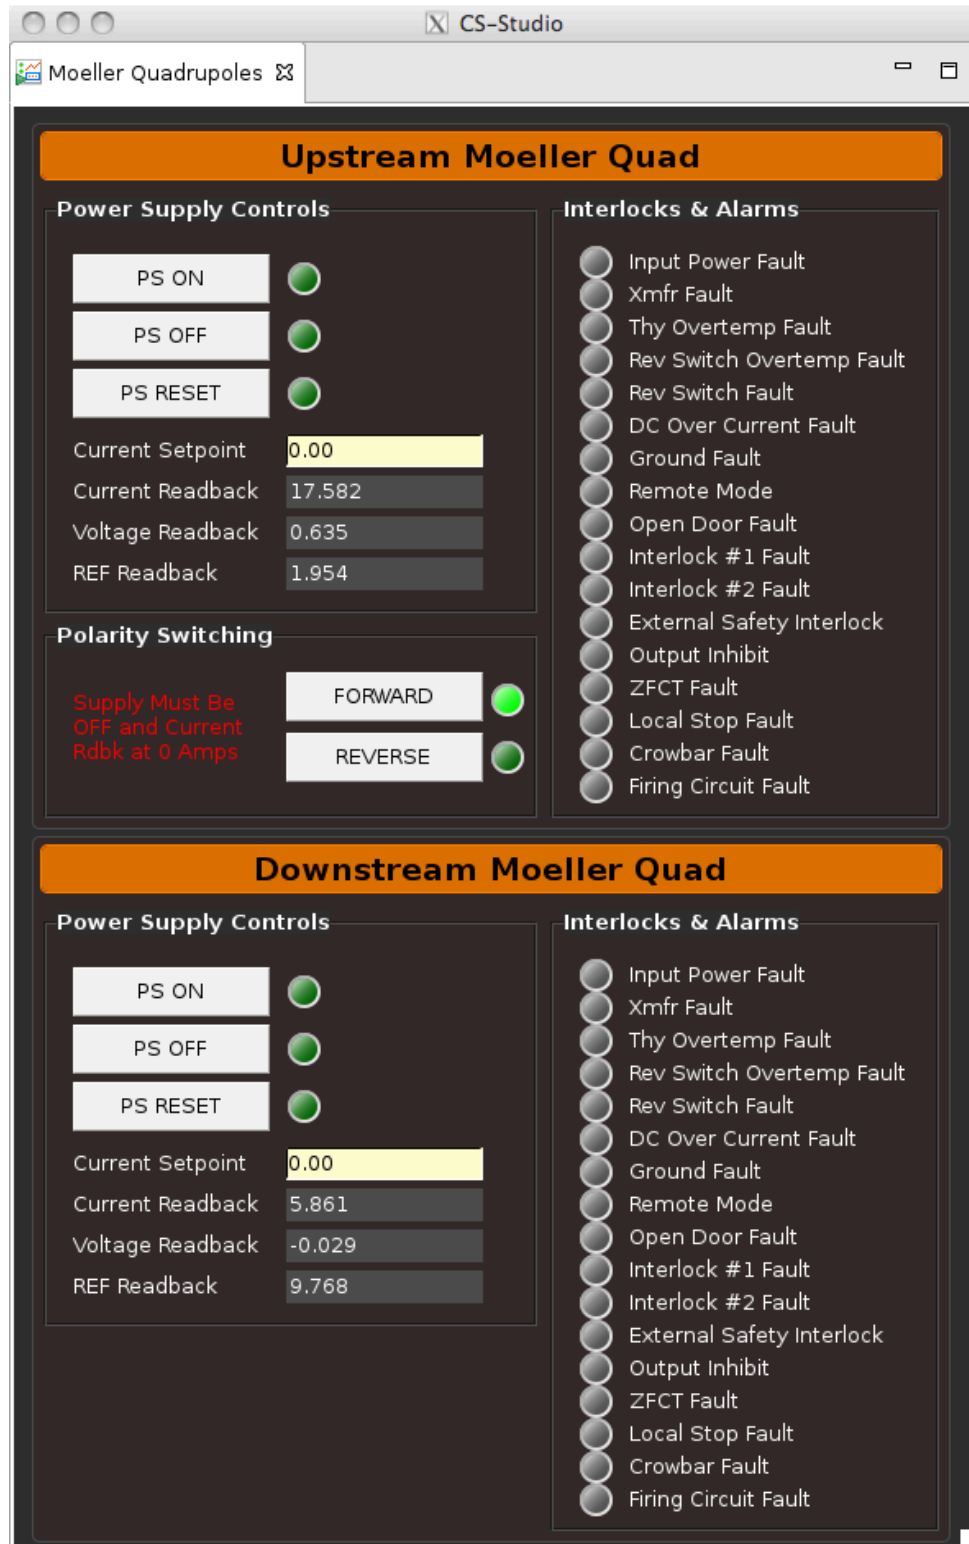

Figure 2: Control GUI for the Möller quadrupole power supplies.
- (b) The control for Möller quadrupole power supplies are provided in "Moeller Quadrupoles" GUI, see Fig.2. Power supplies will be turned ON and in remote before hall closing. From GUI one should first turn them on by pushing the "PS ON" buttons, then set the desired value for currents in "Current Setpoint" window. For 10.7 GeV the suggested value for the quadrupoles is 3050 A.